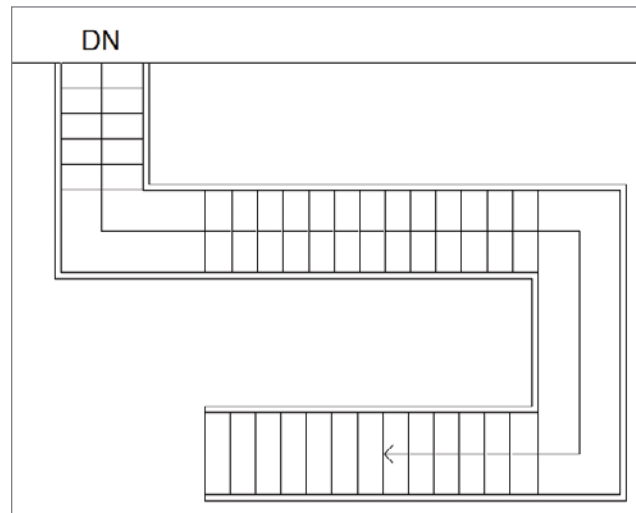

FIGURE 10.67 The stairs in place
5. When you have picked the points, click Finish Edit Mode. Your plan should look like Figure 10.67.